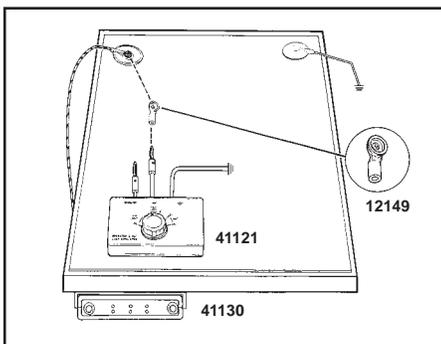

Figure 7. Testing 41130 work surface for “PASS” and “FAIL” ranges as indicated on calibration unit.
Step 2: Connect the 12149 adapter to the banana plug marked “Mat” on the calibration unit. Disconnect mat connect from monitor to mat, but leave mat monitoring cord attached to monitor. Attach the 12149 adapter from calibration unit to monitor’s mat monitoring cord. See figure 7.